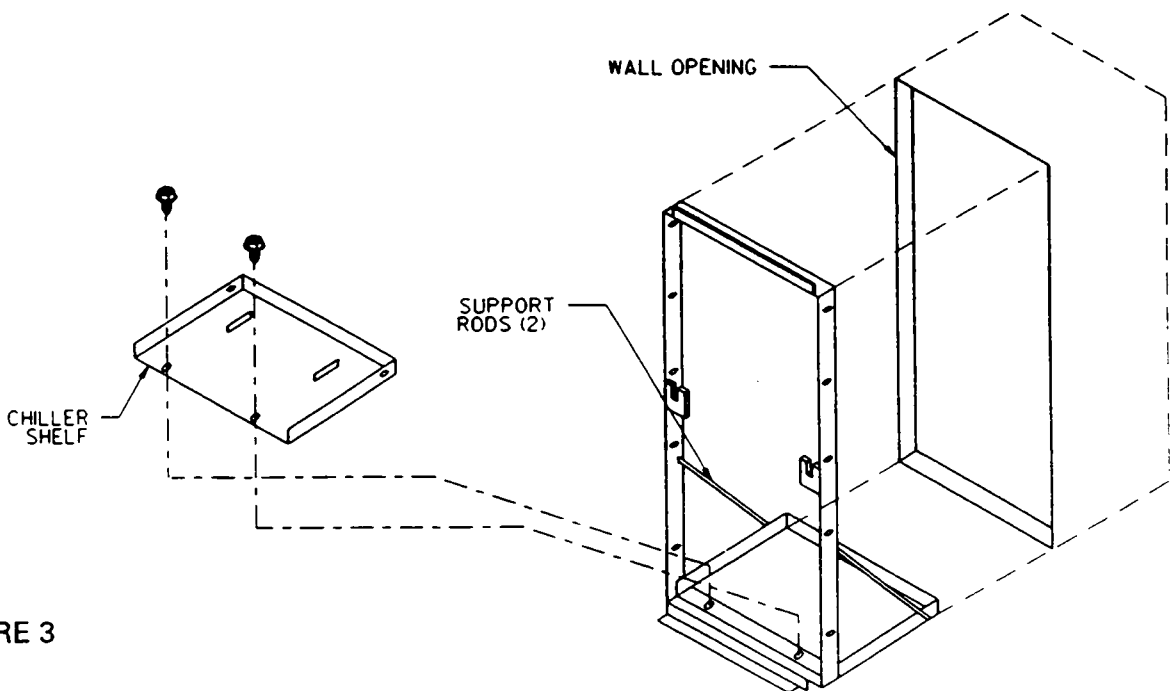

FIGURE 3
5. Install wall frame assembly in wall opening with front edge of frame flush with finished wall face. Secure frame through holes in top & sides to wall support members with $\frac{5}{16}$ " diameter fasteners (bolts or lag screws) as required by wall construction. (14) bolts/screws required. CAUTION: DO NOT USE LESS THAN REQUIRED QUANTITY AND SIZE (DIAMETER) OF FASTENERS.
6. Install chiller shelf as shown in Figure 3. Place shelf on lower frame member and attach support rods. Secure front edge of the shelf to frame & wall construction using two $\frac{5}{16}$ " diameter lag screws or bolts. Tighten securely.
5. Install wall frame assembly in wall opening with front edge of frame flush with finished wall face. Secure frame to wall support members with $\frac{5}{16}$ diameter fasteners (bolts or lag screws) as required by wall construction. (14) bolts/screws required. CAUTION: Do not use less than required quantity and size (diameter) of fasteners.
6. Install chiller shelf. As shown in Figure 3 (page 3), place shelf on lower frame member and attach support rods. Secure front edge of the shelf to frame and wall construction using two (2) $\frac{5}{16}$ " diameter lag screws or bolts. Tighten securely.